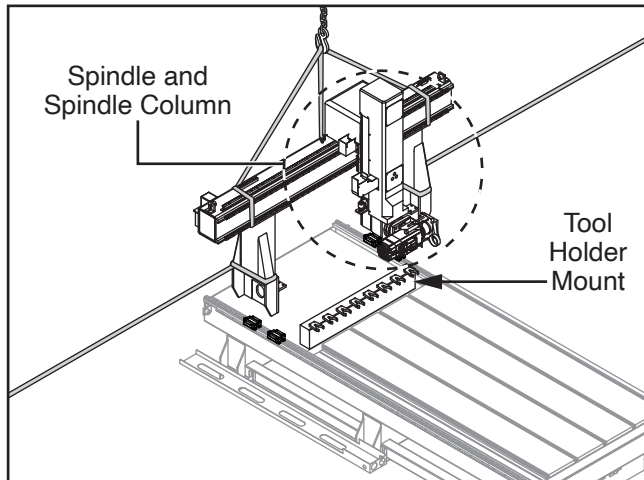

Figure 33. Verifying spindle and spindle column clearance.
9. Verify spindle and spindle column *will not* contact tool holder mount when gantry is lowered. Reposition gantry forward or backward if needed (see **Figure 33**).